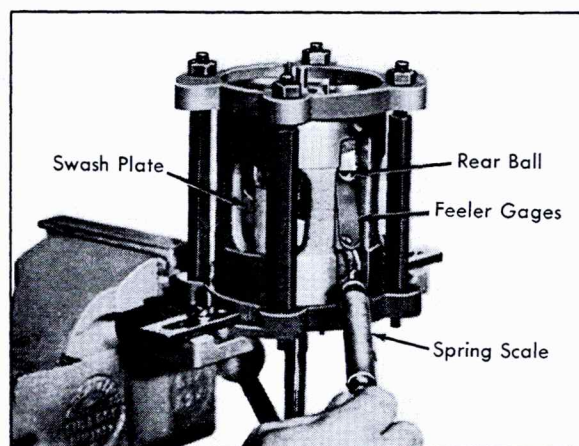

Fig. 1-66 Gaging Rear Piston Ball
c. Pull on spring scale to slide feeler gage stock out from between ball and swash plate, and note reading on spring scale as feeler gage is removed, Fig. 1-66. Reading should be between 4 and 8 ounces.